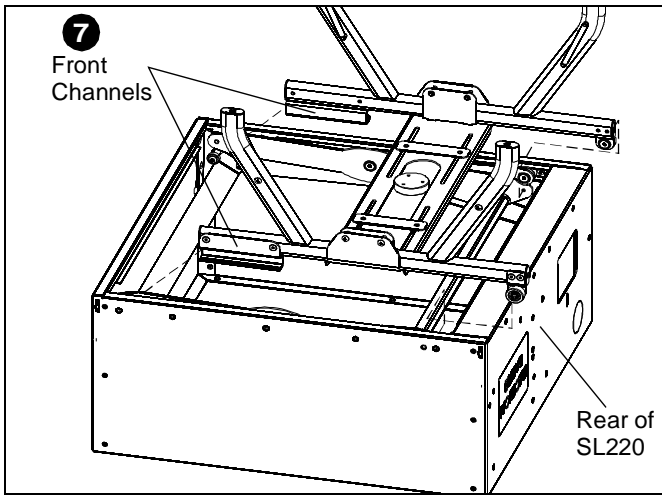

Figure 4
7. While still pulling the projector cradle away from the sides of the SL220, slide front channels towards back, off of bearings and remove projector cradle from SL220. (See Figure 4)